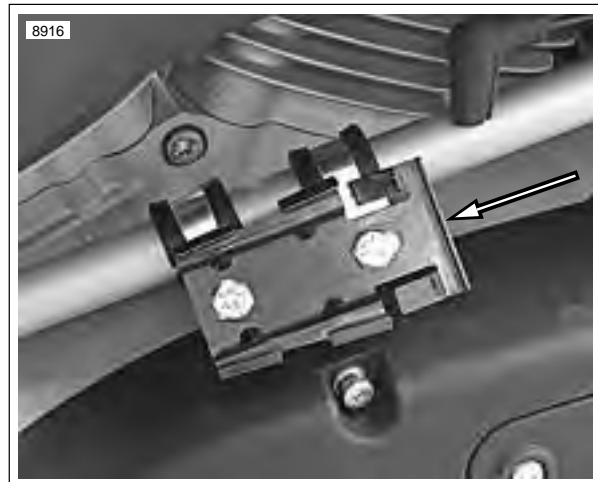

Figure 4-125. Canister Mounting Bracket
1. See Figure 4-125. Slide canister into position on canister mounting plate and push towards front of vehicle.